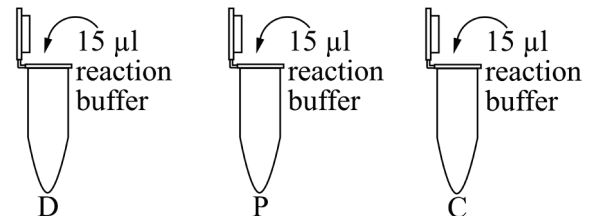

Fig. 4
3. Using the P20 micropipette and sterile tips, add 15 μ l reaction buffer to each of the micro-centrifuge tubes (Fig. 4).